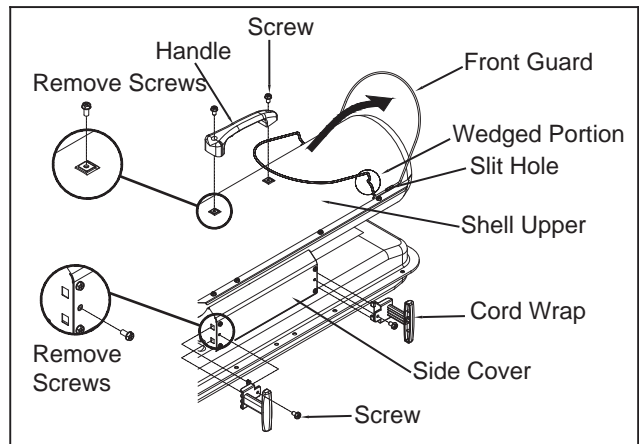

Figure 6. Assembling Handle & Cord Wrap
- 3) Align the holes in the upper housing with two mounting holes on the handle as shown in Figure 6.
- 5) Insert card wrap into the rectangle holes on the supporter and align the hole on the cord wrap with the mounting hole on the side cover as shown in Figure 6.